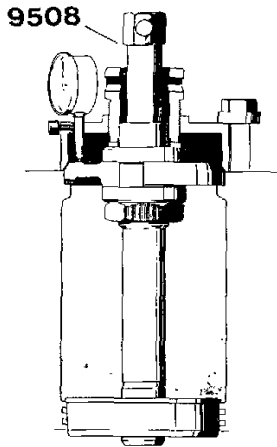

Fig. 57. Tool for reconditioning the liner seat
2. Fit the lower cylinder liner O-ring seals and place the guide for the milling tool in the lower cylinder seat, fig. 57. Ensure that the collar of the guide clears the intermediary wall in the block.
4. Attach a dial indicator as shown in fig. 57 and screw down the feed sleeve so that it presses lightly on the milling cutter. Use a T-bar (not a ratchet handle) equipped with a flexible joint and a socket for turning the milling cutter. Turn the milling cutter so that the fillet radius in the bottom of the liner recess is removed. Check that the feed sleeve presses lightly against the milling cutter and set the dial indicator to zero. Zero setting and reading should be made from the same point on the milling cutter. A paint-mark adjacent to the ground surface on the upper edge of the milling cutter gives a reliable "Reading position".